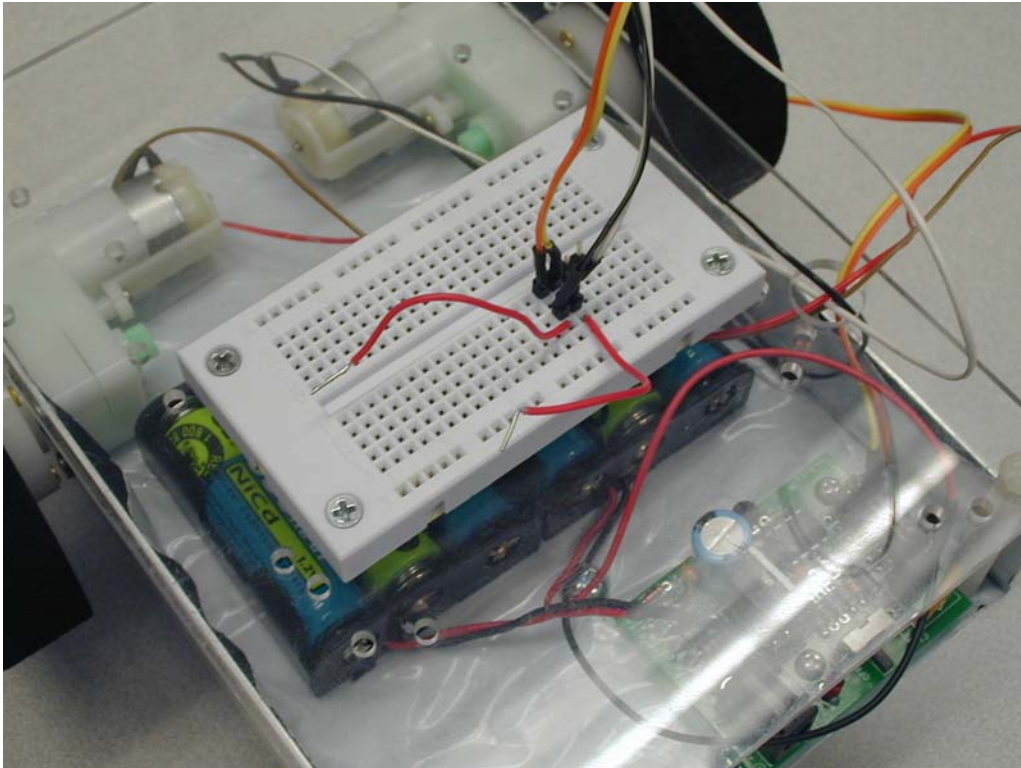

Figure 8 Cable Positions for Testing Motors (Motor control removed for clarity)
7. Turn the switch on the charger board to “OFF”. Looking at the TekBot from the front or back, insert the power plug horizontally into the breadboard. Make sure each pin is in a separate node. If you have the plug rotated 90 degrees, you will short the batteries to ground. (This is bad!) Connect one of the motor cables to the breadboard in the same nodes as the power and ground of the power plug. See Figure 8. Move the charger switch to “ON”. One of the wheels should turn to make the TekBot go forward. If it goes backwards, rotate the motor plug 180 degrees. Repeat for the other wheel. Connect both motor cables and run the TekBot on the floor. Observe how straight it goes.